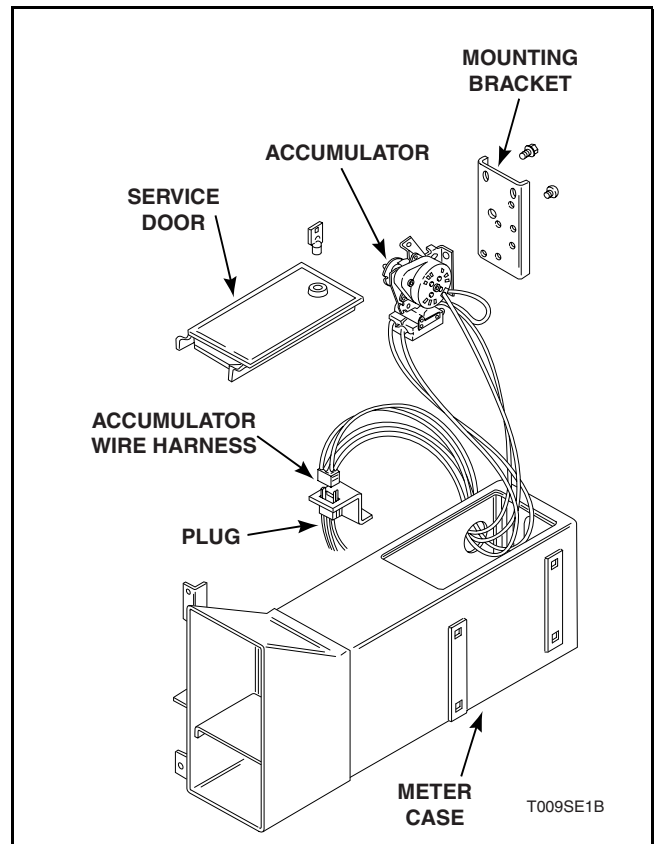

Figure 10
- Disconnect accumulator wire harness at plug. Refer to *Figure 10*.
- Remove two capscrews holding accumulator bracket to service door. Refer to *Figure 10*.
- Remove two screws holding accumulator assembly to bracket. Refer to *Figure 10*.